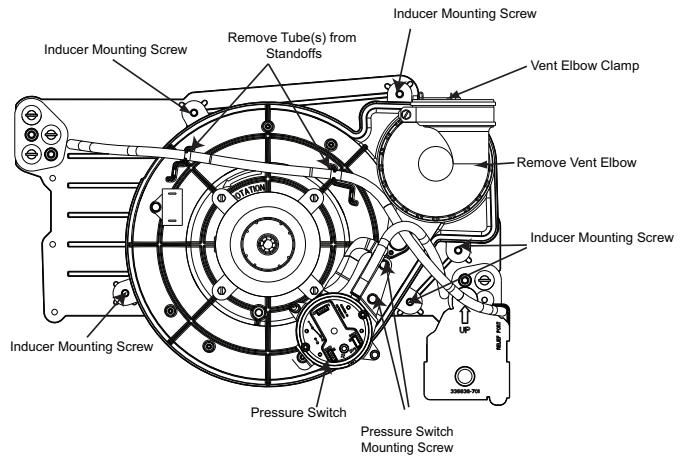

Fig. 2 – Inducer Assembly with Pressure Switches.
1. Remove the front pressure switch or pressure transducer tube from the port on the collector box, see Fig. 2. For Ultra Low NOx models, go to Step 7. all other models, continue with Step 2.